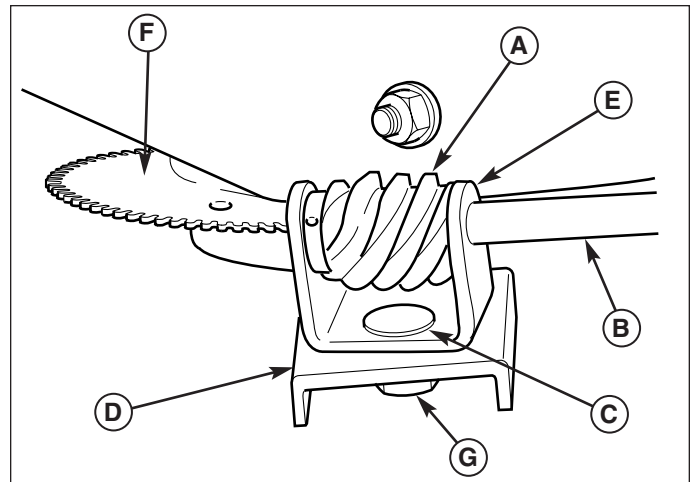

Figure 17. Discharge Control
If the discharge chute is difficult to operate, first lubricate the pinion gear (A, Figure 17) and ring gear (F). If it is still difficult to operate, adjust as follows:
1. Loosen the nut (G, Figure 17) which holds the pinion gear bracket in the slotted hole.